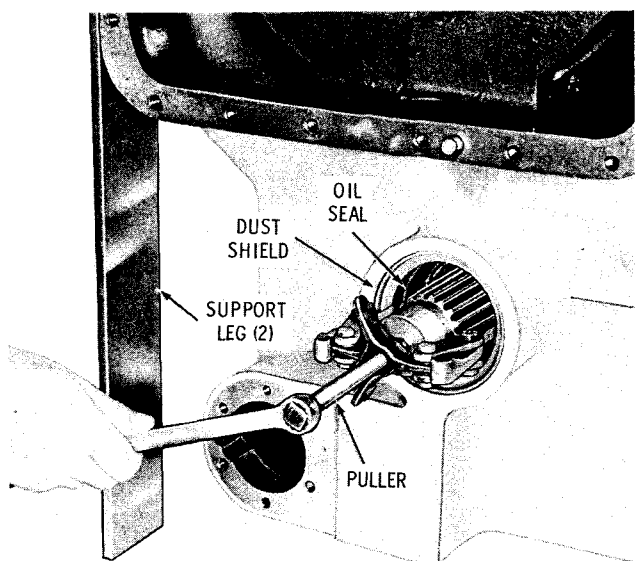

Fig. 5-34. Removing front output dust shield
(1) Using a bearing puller, remove the dust shield and oil seal from the front of the transmission (fig. 5-34). On later models, no dust shield is present.